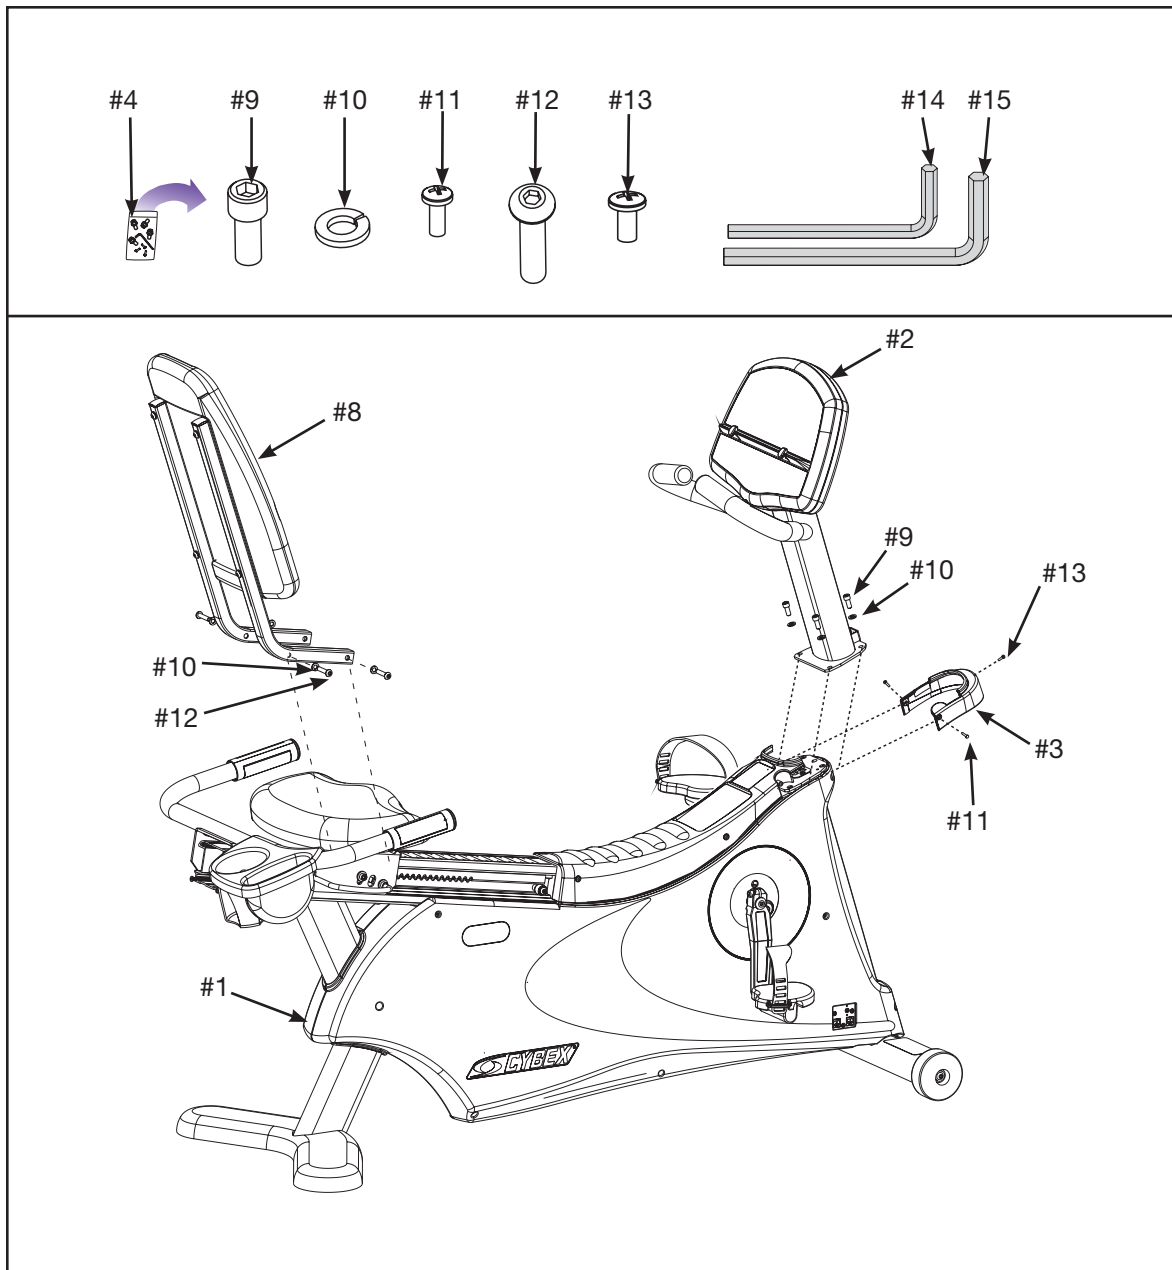

Figure 2
B. Check off (☑) each item in the hardware pack as you find it. See Figure 2.